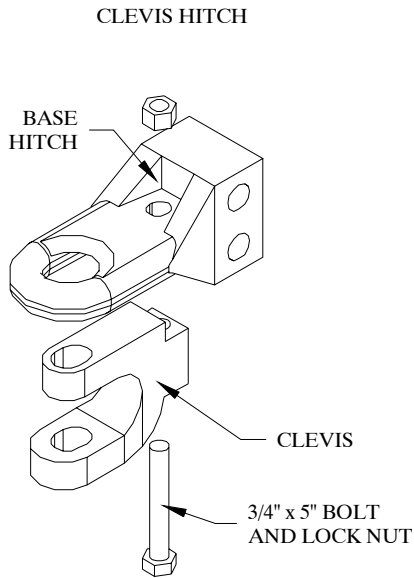
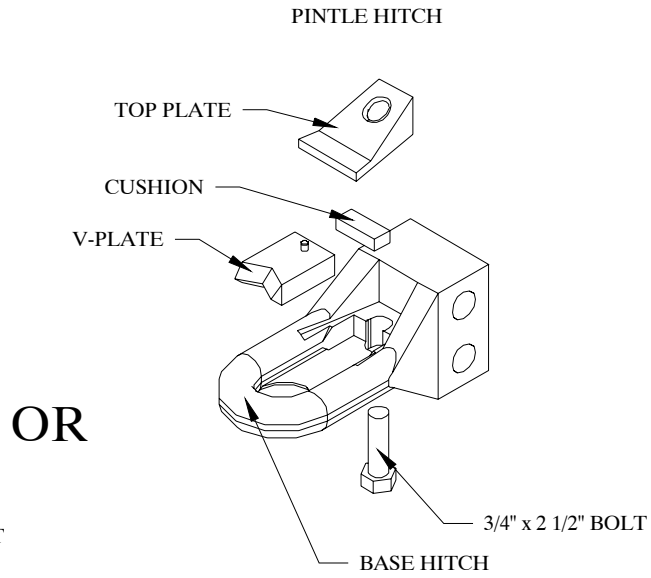

Figure 2
Figure 3
5. Assemble either a clevis hitch (Figure 2) or a pintle hitch (Figure 3) as required by the tractor or towing vehicle. Note the opposite orientation of the base hitch for each hitch type. Attach the hitch assembly to the A-frame with two 1" x 6 1/2" bolts and locking nuts.